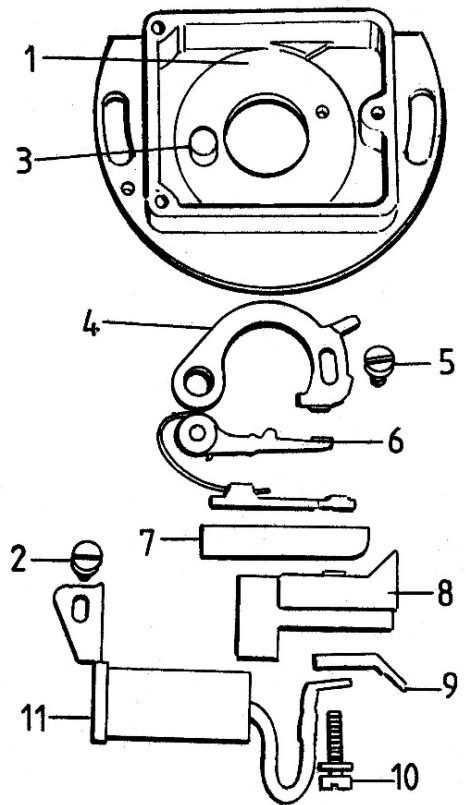

Fig. 1 Items fitted to points box (Courtesy of Haynes Publishing)
A. The eleven items fitted to the points box per Fig. 1:
10. Screw and washer to secure items 6 – 9 and the connecting wire from 11 (Photo 15)
1. Take your points ignition spare parts from the spares box. Ensure you have all the parts shown in Figs. 1 and 2 and photo 3. Keep an eye on the spring circlip as it is small, springy(!) and very easily lost!